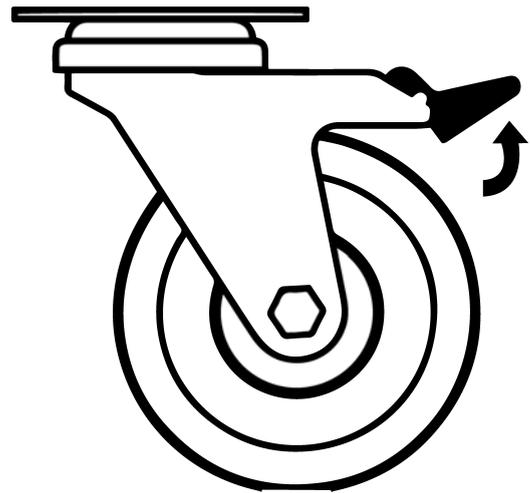

Fig 2. Castor Unlocked
- Ensure when placing the TD-AS1681 volatile material oven into place that the castors can be accessed so they can be locked (**Fig 3**) and unlocked (**Fig 2**). Please contact your supplier or Thermoline should there be any damage to the castors.